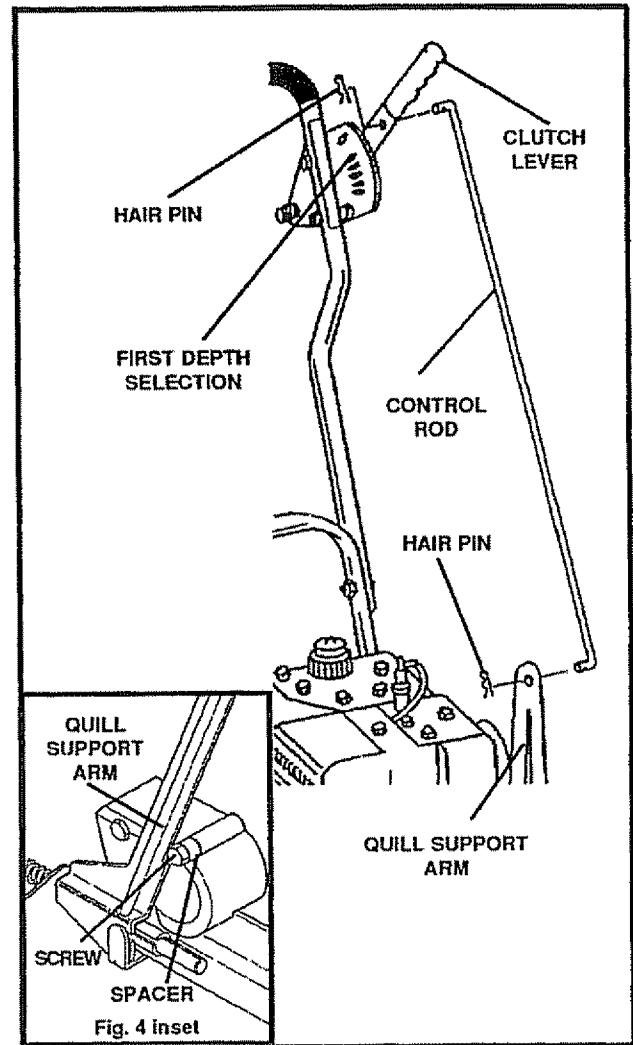
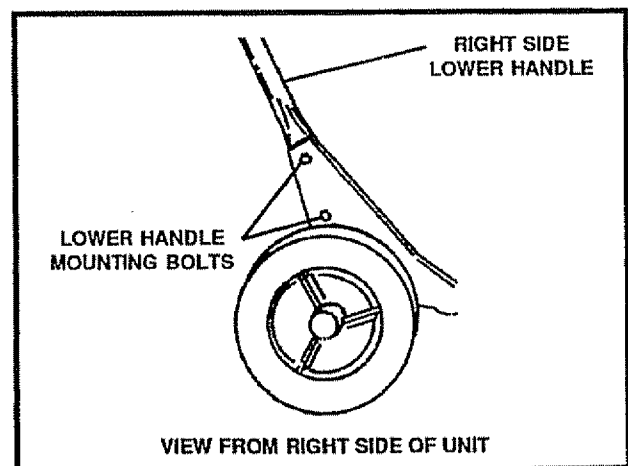

FIG. 4
FIG. 5
- Insert one end of the control rod from left to right through the hole in the clutch lever (See Fig 4) and attach with a hair pin (found in the parts bag)
- Place the clutch lever in the first depth selection (See Fig. 4) and insert the other end of the control rod through the hole in the quill support arm (See Fig. 4) Attach with hairpin (found in parts bag)
NOTE: If it is difficult to get the clutch lever into NEUTRAL, it may be necessary to loosen the four screws and nuts holding the lower handle to the frame (See Fig 5). Pry up (forward) on the handle only enough to allow the clutch lever to freely enter the NEUTRAL position. Retighten nuts and screws. When the clutch lever is in NEUTRAL the Quill Support Arm should be within 1/4 inch of the spacer and screw behind it (See Fig 4 inset)